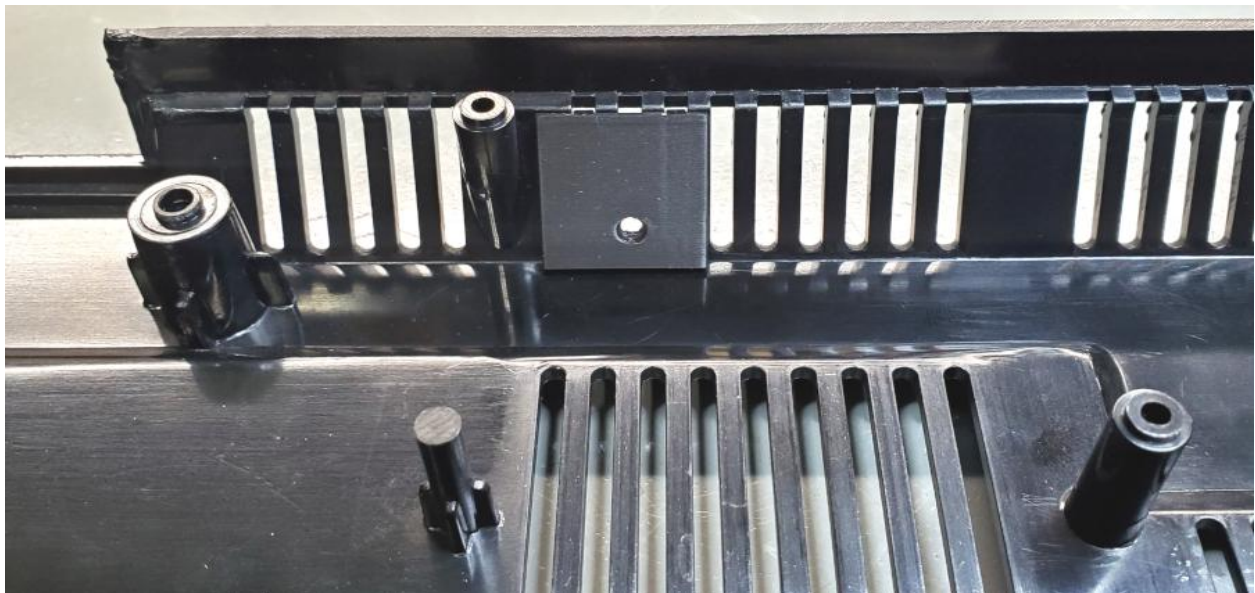

Figure 11a: Single LED mounting bracket placement in lower case housing
Step 9: Install the LED assembly mounting bracket in the empty lower case housing as shown for proper placement and orientation. Peel off the double-sided mounting tape backing and firmly press the bracket in place as shown. For single LED assembly option, follow **Figures 11a and 11b**. For dual LED light bar assembly option, follow **Figures 11c and 11d**.